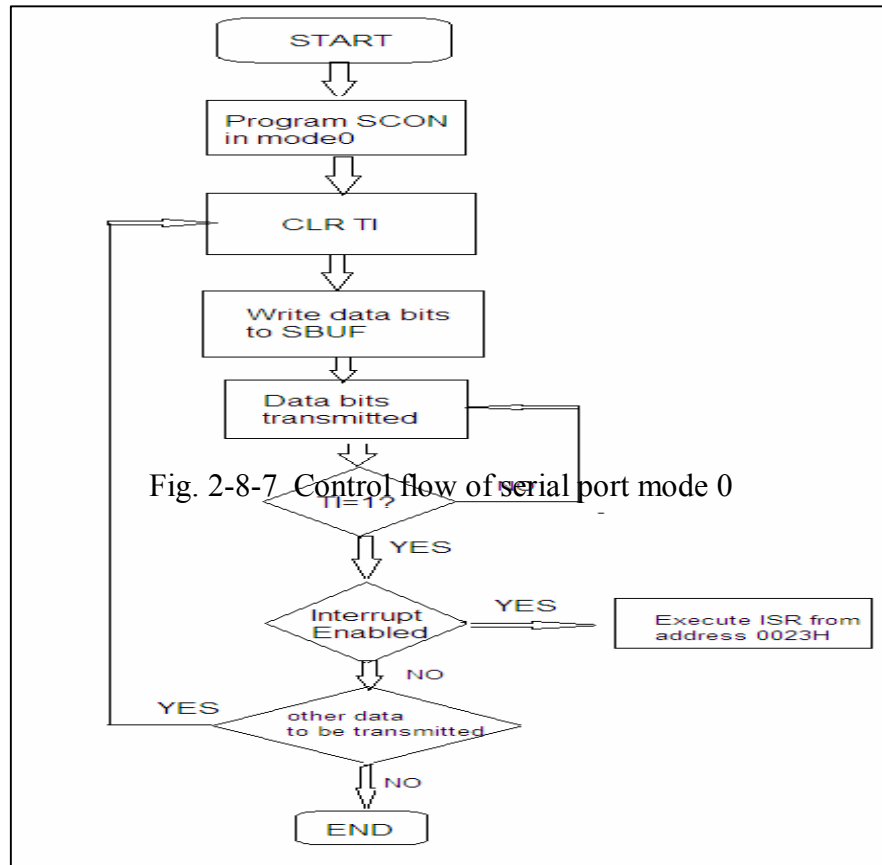

Fig. 2-8-7 Control flow of serial port mode 0
- (1) Transmit: See Fig. 2-8-7.